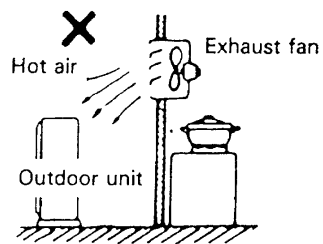

Fig. 3
- heat source, exhaust fan, etc. Fig. 3